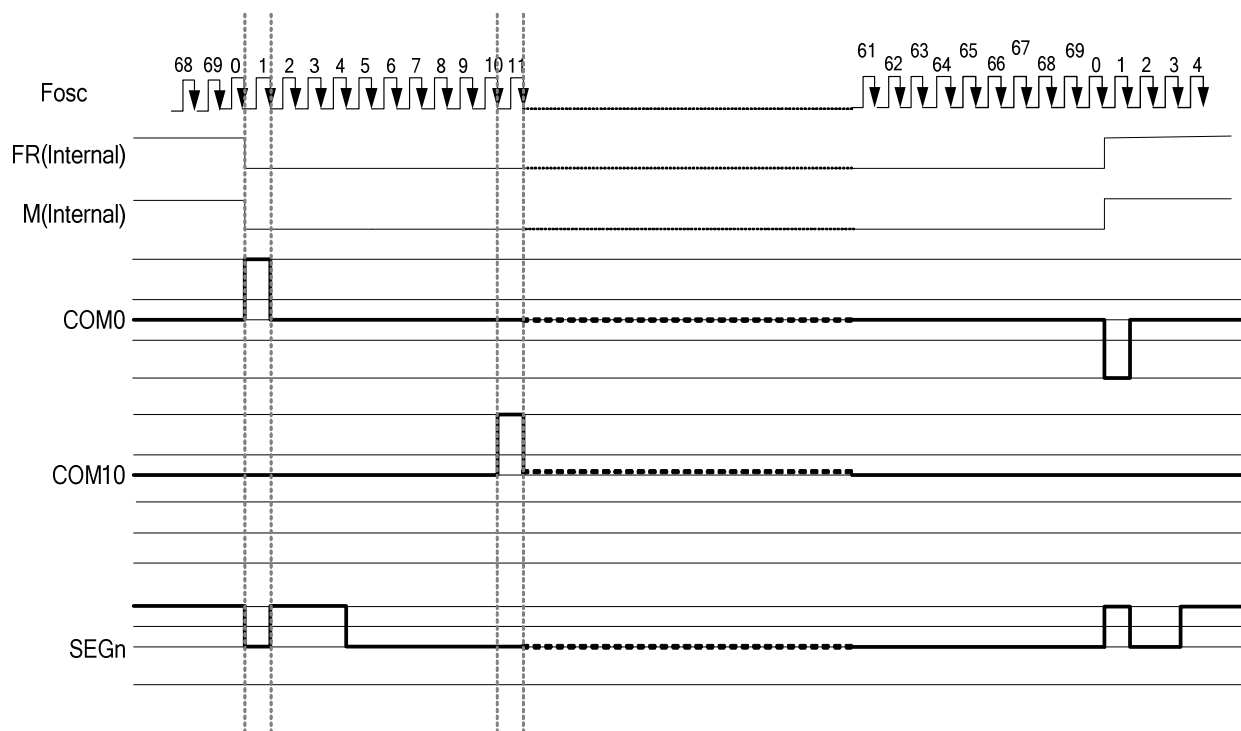

Figure 7.5 2-frame AC Driving Waveform (Duty Ratio: 1/70)
This circuit generates some signals to be used for displaying LCD. The display clock, which is generated by oscillation clock, generates the clock for the line counter and the signal for the display data latch. The line address of on-chip RAM is generated in synchronization with the display clock and the display data latch circuit latches the 96-bits display data in synchronization with the display clock. The display data, which is read to the LCD driver, is completely independent of the access to the display data RAM from the microprocessor. The display clock generates an LCD AC signal (M), which enables the LCD driver to make an AC drive waveform, and also generates an internal common timing signal and start signal to the common driver. The frame signal or the line signal changes the M by setting internal instruction. Driving waveform and internal timing signal are shown in Figure 7.5.